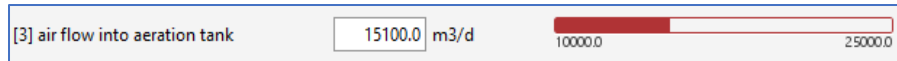

Figure 9-7 – Analyze Controller
3. As the independent variable is incremented, the analyze controller displays its current value in a non-interactive gauge as shown in **Figure 9-7**. You can estimate the extent of completion by observing this gauge.